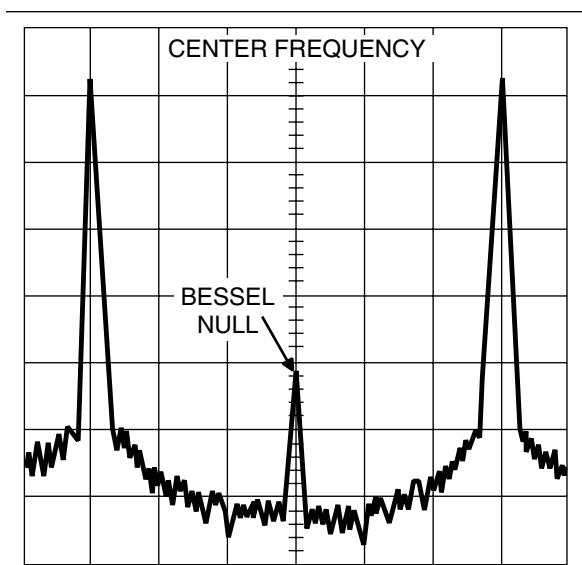

Figure 3-9. Typical Spectrum Analyzer Display of Bessel Null on FM Waveform
5. On the 693XXB, use the cursor control key to place the cursor under the last 0 in the deviation setting (0.240 MHz). While observing the first Bessel null (Figure 3-9), increase/decrease the deviation frequency with the cursor control key to reduce the carrier as low as possible.
4. On the 693XXB, use the cursor control key to place the cursor under the last 0 in the deviation setting (0.240 MHz). While observing the first Bessel null (Figure 3-9, page 3-34), increase/ decrease the deviation frequency with the cursor control key to reduce the carrier as low as possible.
4. On the 693XXB, use the cursor control key to place the cursor under the last 0 in the deviation setting (0.240 MHz). While observing the first Bessel null (Figure 3-9, page 3-33), increase/decrease the deviation frequency with the cursor control key to reduce the carrier as low as possible.